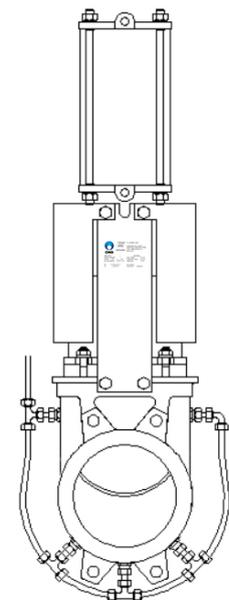

Fig.8
- Flushing Holes in Body / Tubing Installation (fig. 8)